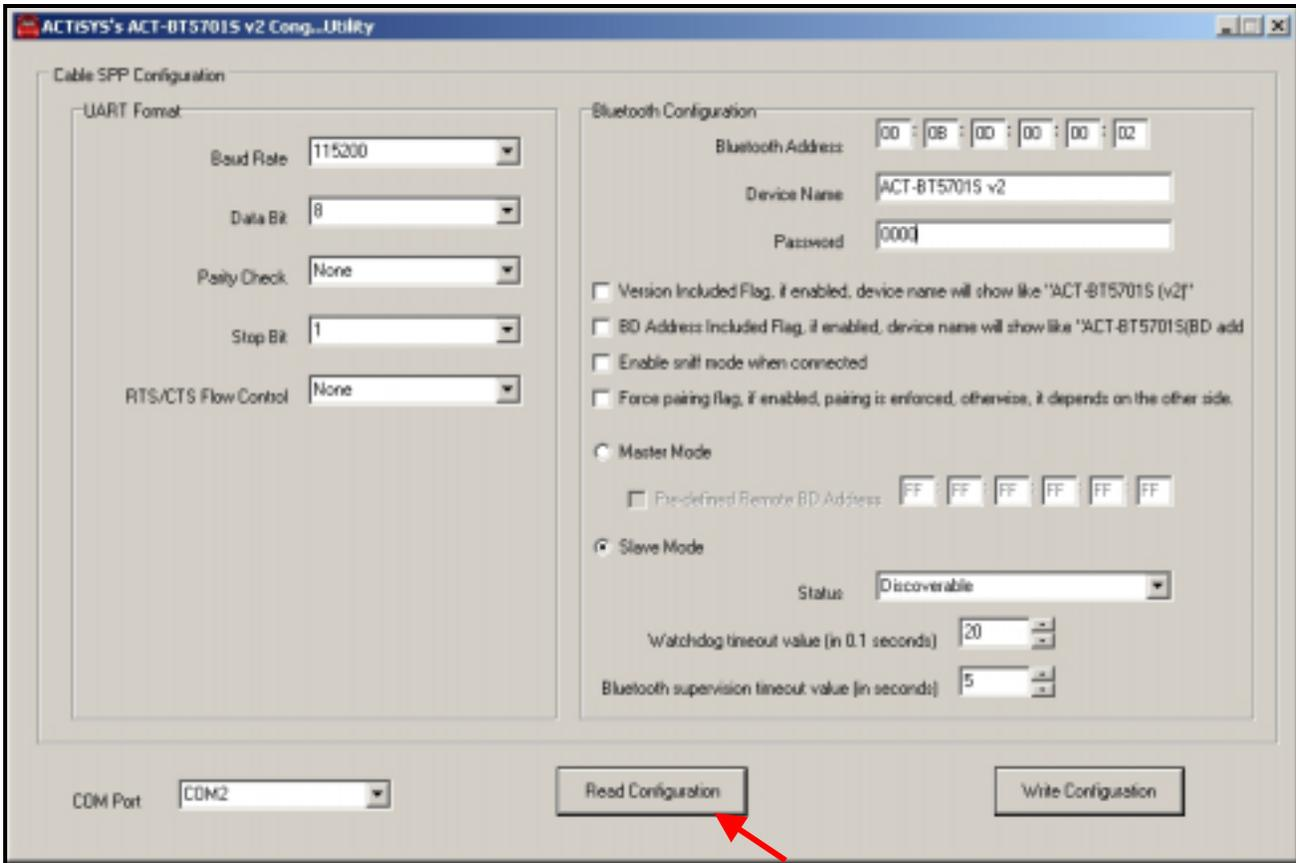

Figure 9: Read Configuration Complete
10.6. Click **“Read Configuration”** button and wait for operation completes. It will indicate default configuration. See Figure 9. In this window user has to define parameters as per requirement. Details please refer to Chapter 9.